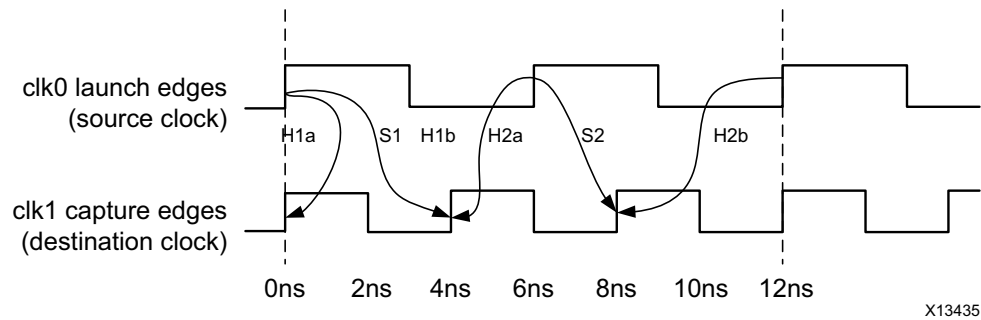

Figure 5-4: Hold Relationships per Setup Relationship
- The data sent by the setup launch edge cannot be captured by the active edge before the setup capture edge (H1a and H2a corresponding to setup edges S1 and S2 respectively in Figure 5-4).
- The data sent by the next active source clock edge after the setup launch edge cannot be captured by the setup capture edge (H2a and H2b corresponding to setup edges S1 and S2 respectively in Figure 5-4).